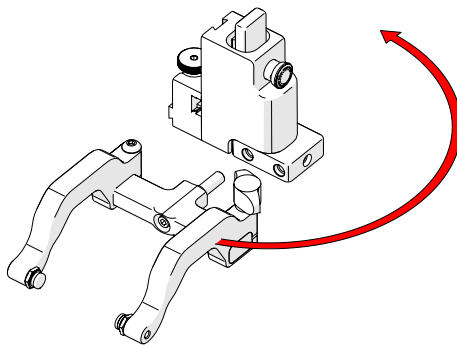

Fig. 118 - Orient to opposite side
2. Position the yoke and arms on the opposite side of the probe holder (Fig. 118).